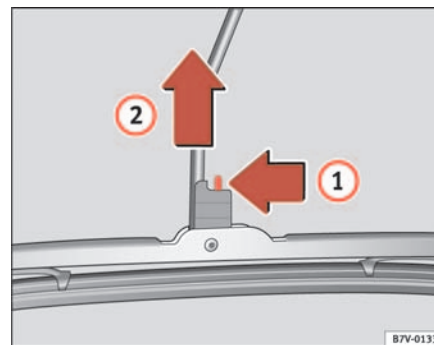

Fig. 148 Changing a rear wiper blade
- Release the wiper blade as shown by arrow ⇒ fig. 148 **1** and, at the same time, pull the wiper blade as shown by arrow **2**.
- Insert a new wiper blade **of the same length and design** in the direction of arrow ② and hook the blade back onto the wiper arm.
- Now pull the wiper blade against the direction of arrow ② until it engages.